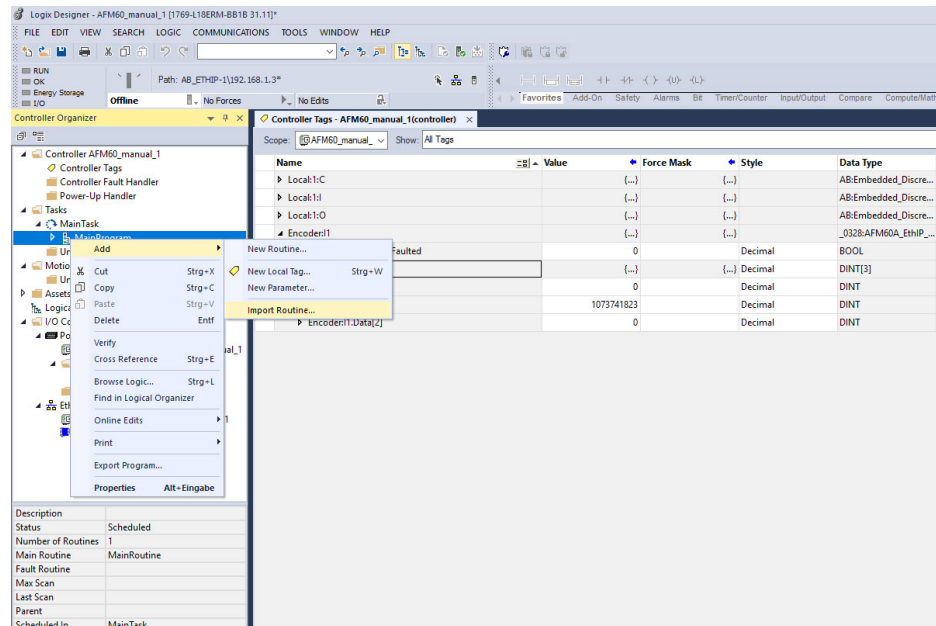

Figure 39: Selection of the Import Routine command...
- ▶ Do not click on **OK** until all configuration steps for import have been completed. If you click OK by mistake, you have to restart the import (see figure 39, page 56).